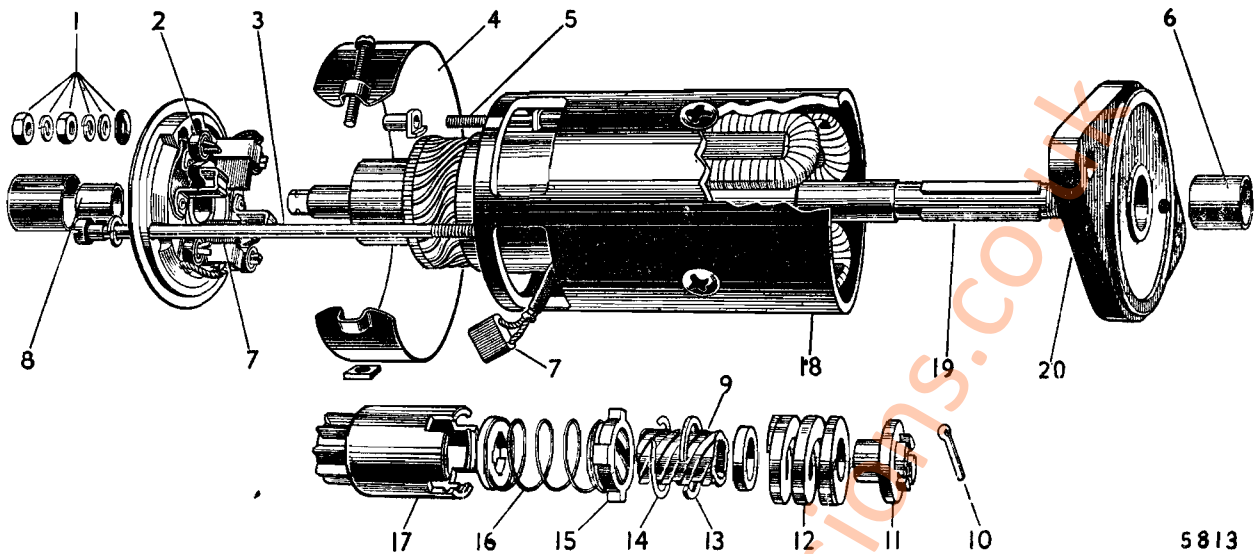

Fig. N.4
Remove the starter cover band (4) (Fig. N.4) and examine the brushes (7) (Fig. N.4) and the commutator. Hold back each of the brush springs (2) (Fig. N.4) and move the brush by pulling gently on its flexible connector. If the movement is sluggish remove the brush from its holder and ease the sides by lightly polishing with a smooth file. Always replace brushes in their original positions. If the brushes are worn so that they no longer bear on the commutator, or if the brush flexible lead has become exposed on the running face, they must be renewed.
Take off the cover band (4) (Fig. N.4) at the commutator end, hold back the brush springs (2) (Fig. N.4), and take out the brushes (7) (Fig. N.4) from their holders.
- (1) Test the brush springs with a spring scale. The correct tension is 30 to 40 oz. (850 to 1134 gm.). Fit a new spring if the tension is low.
- (2) If the brushes are worn so that they no longer bear on the commutator, or if the flexible connector has become exposed on the running face, they must be renewed. Two of the brushes are connected to terminal eyelets attached to the brush boxes on the commutator end bracket. The other two brushes (7) (Fig. N.4) are connected to tappings on the field coils.
To dismantle the drive extract the split pin and remove the shaft nut (11) (Fig. N.4); withdraw the main spring and collar.